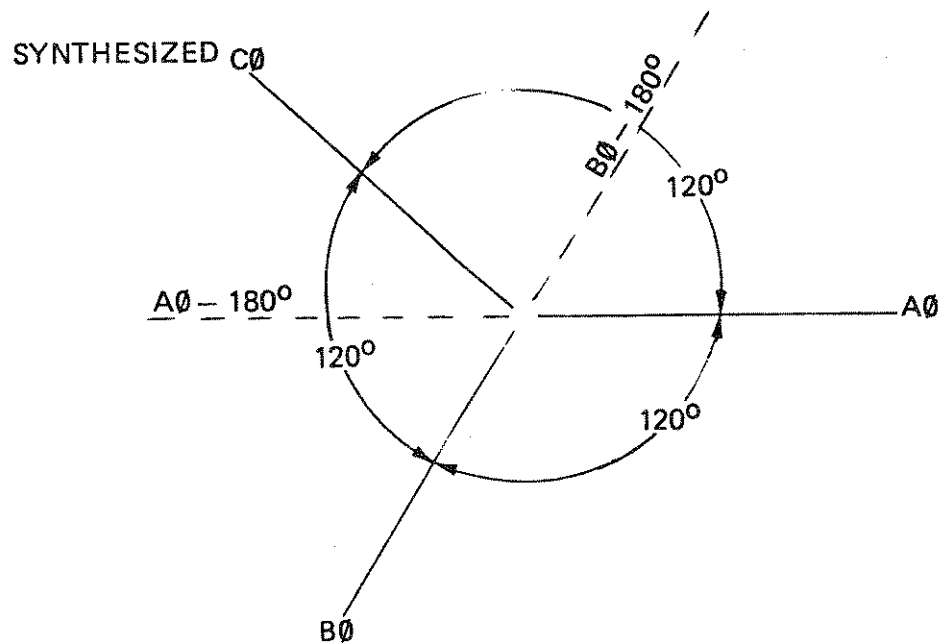

Figure 2-1. 2 Amplifier 3φ Wye Configuration
2.4.2 With those single-phase Elgar power sources which have dual output windings, two power sources may be interconnected for three-phase wye operation. One of the output windings on each of the A-phase and B-phase sources is used for the A-phase and B-phase outputs. The C-phase output is synthesized by inverse series connection of the remaining two windings, as diagrammed in Figure 2-1.